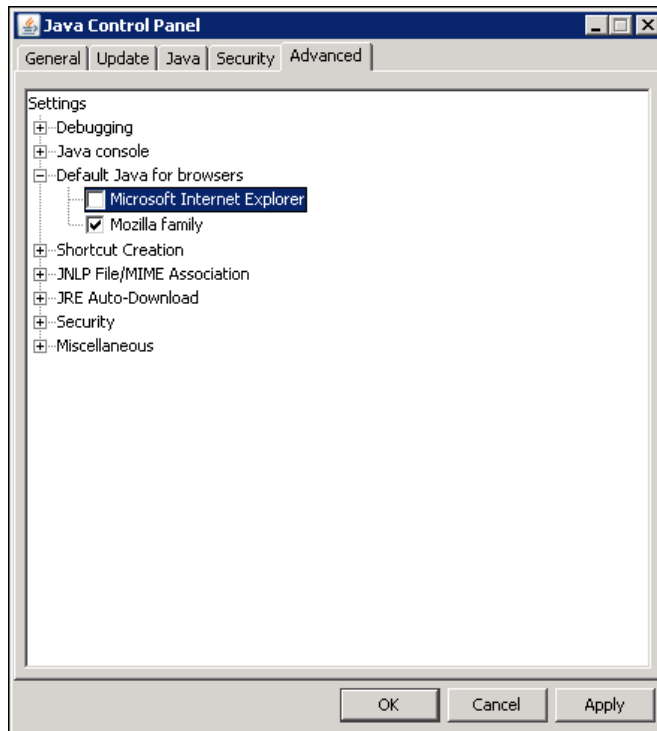

Figure 8-5 Default Java for browsers option
2. Click the **Advanced** tab and expand the **Default Java for browsers** option (Figure 8-5).